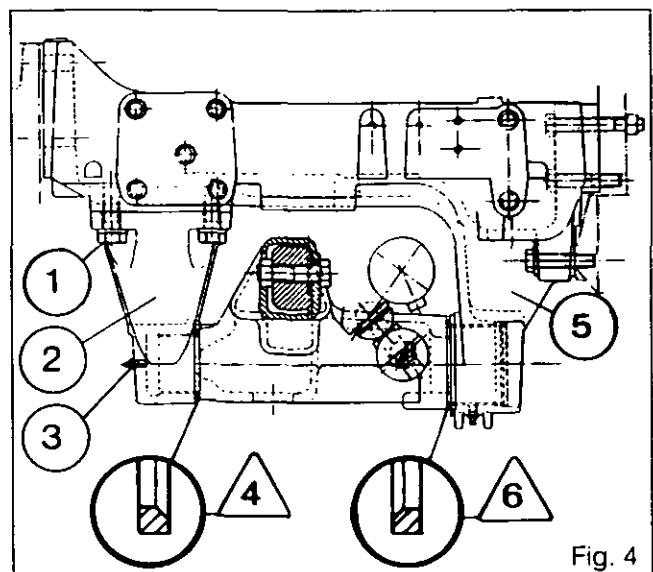

Fig. 4
92. Remove the screws (1) and the grease nipple (3). Remove the front bearing (2) and the washer /4\ (Fig. 4).
93. Remove the front axle, disengaging it from its rear bearing (5) with the washer /6\ (Fig. 4).
94. Remove the lock nut (60) and the nut (59) with its seal (58), remove the support (54). The bush (55), the thrust washer (56) and the o-ring (57) remain on the support (54).
95. If necessary, withdraw the bushes (61) from the axle.
101. Hoist the axle. Position the washer /6\ (the chamfer facing the axle side, Fig. 4). Fit the axle in the support (5).
102. Position the washer /4\ (the chamfer facing the axle side, Fig. 4). Mount the front bearing (2) so as to eliminate play between the washers and the axle as far as possible.
104. Fit the grease nipple (3) (Fig. 4).
106. Grease the bearings (2) and (5) (Fig. 4) and the ram support (54).